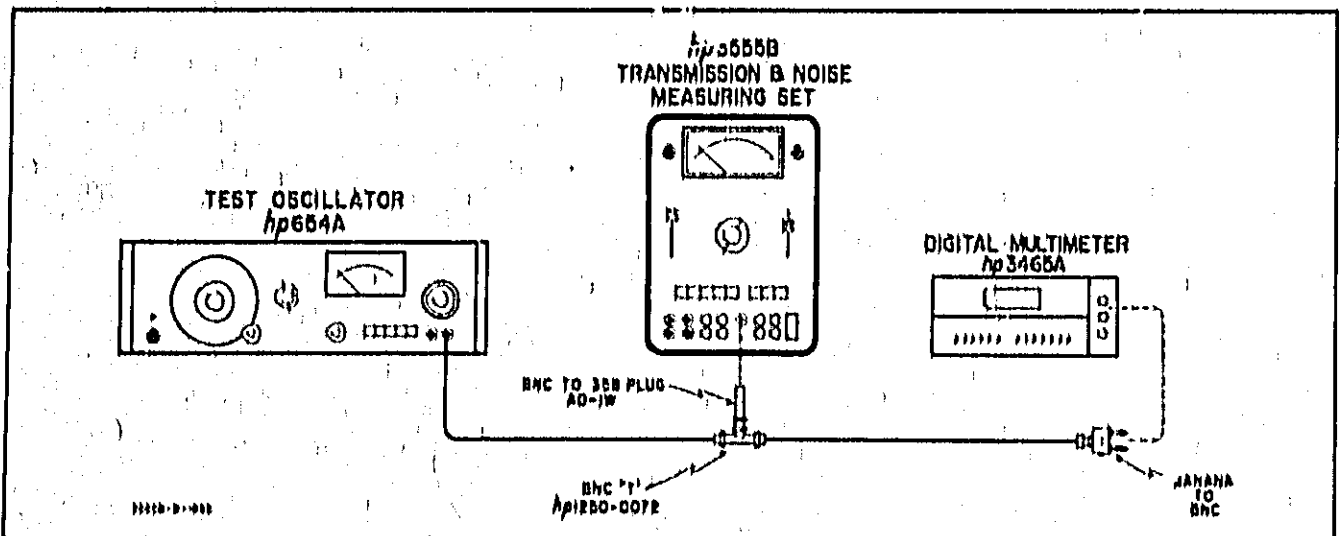

Figure 5-2. Level Accuracy Check
- a. Connect the 654A and 3465A to the 3555B as shown in Figure 5-2 and set the 3555B controls as follows: